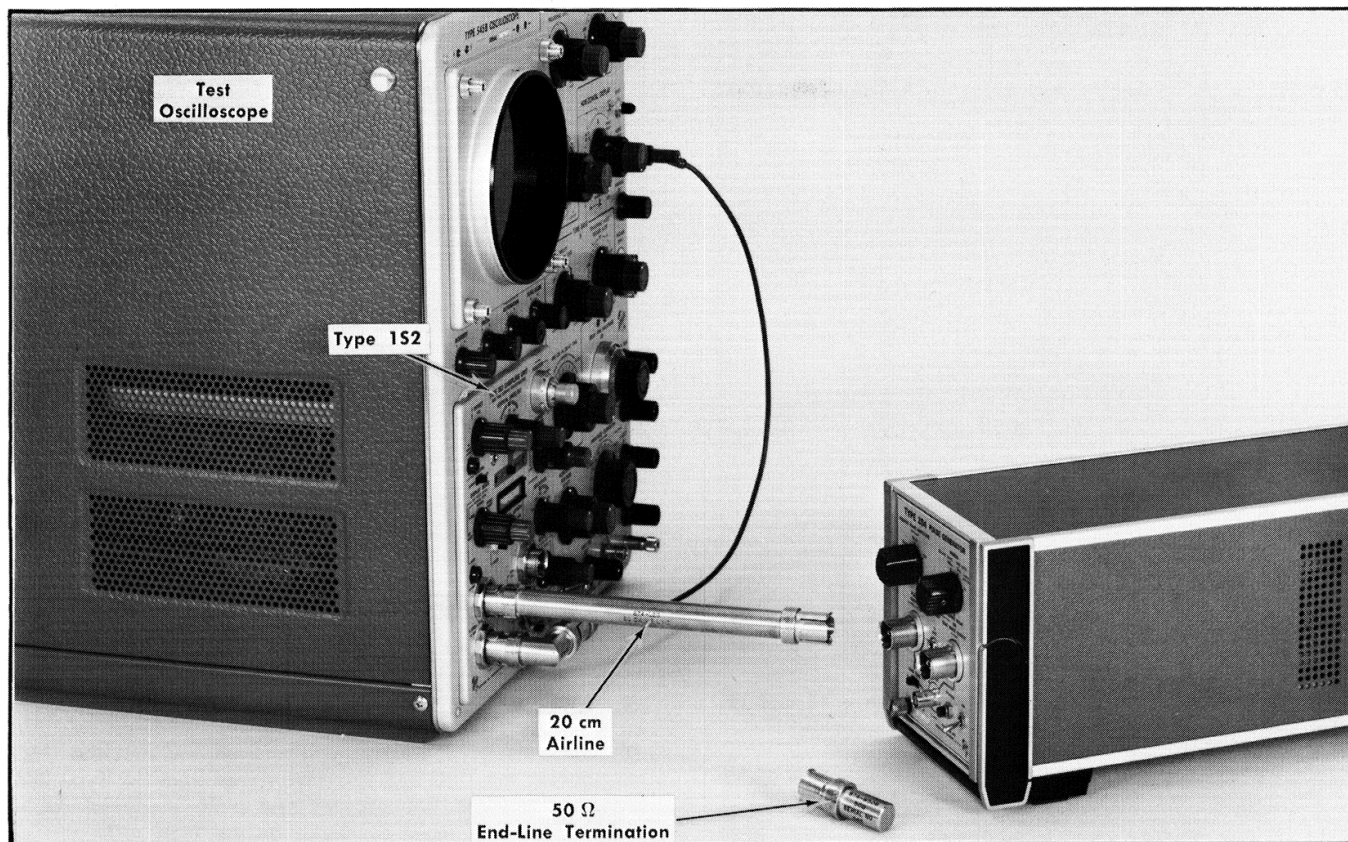

Fig. 6-23. Equipment setup for step 14.
a. Use the equipment setup as in Fig. 6-23. Join the two GR 90° elbows together to form a "U". Install the "U" to both the 0.25-Volt Pulser and the lower Thru Signal Channel 50 Ω connectors. Install a 20 cm air line (GR874-L20) to the upper Thru Signal Channel 50 Ω connector on the Type 1S2.